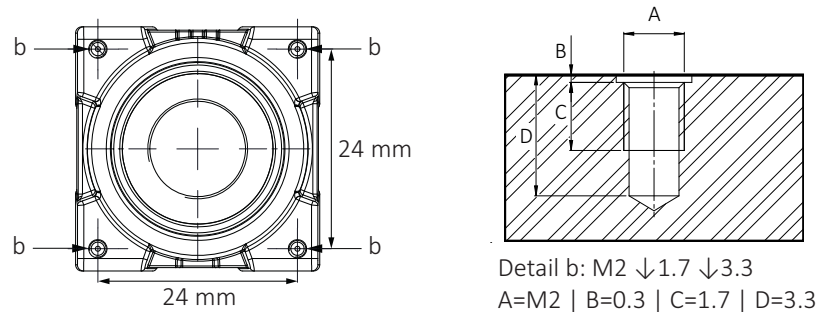

Figure 46: Camera front with mounting threads (c)
1. Mount the camera to the base using suitable M2 screws at 0.17 Nm maximum torque for a thread engagement (C) of 1.7 mm between screws and mounting threads, see Figure 46. For technical drawings, see Dimensions and mass on page 110.